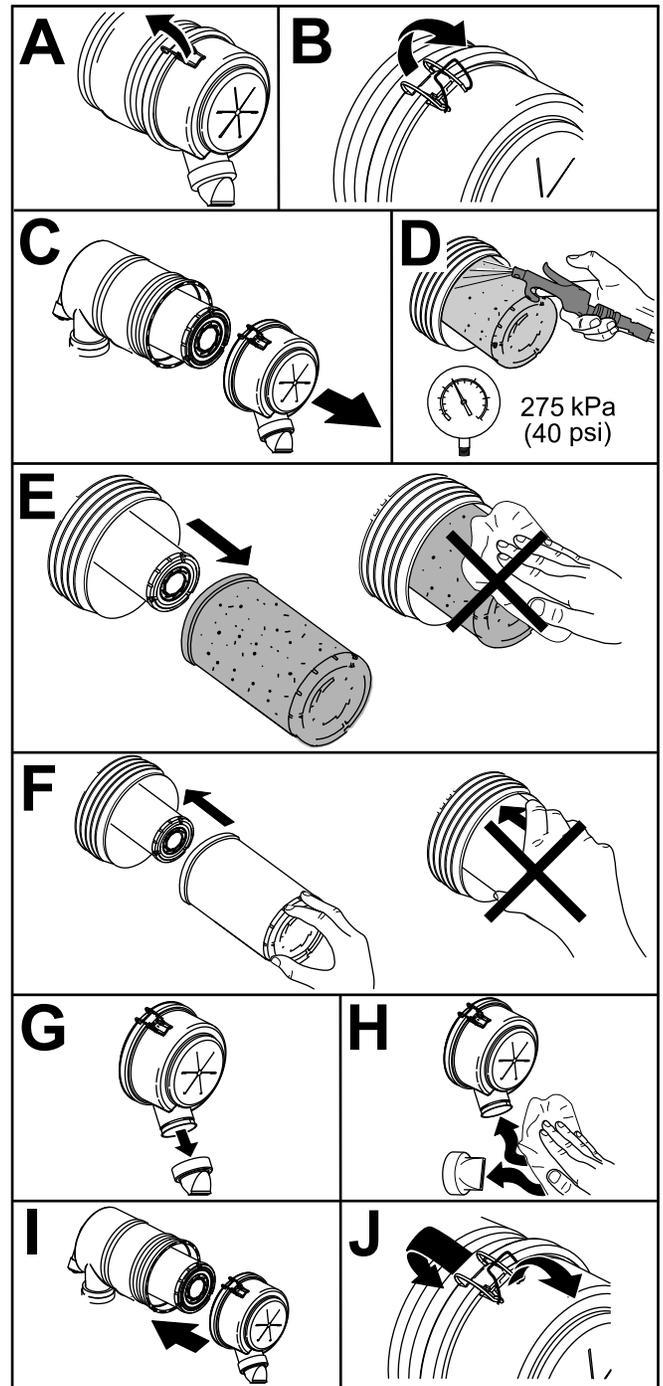

Figure 57
1. Replace the air filter element (Figure 57).